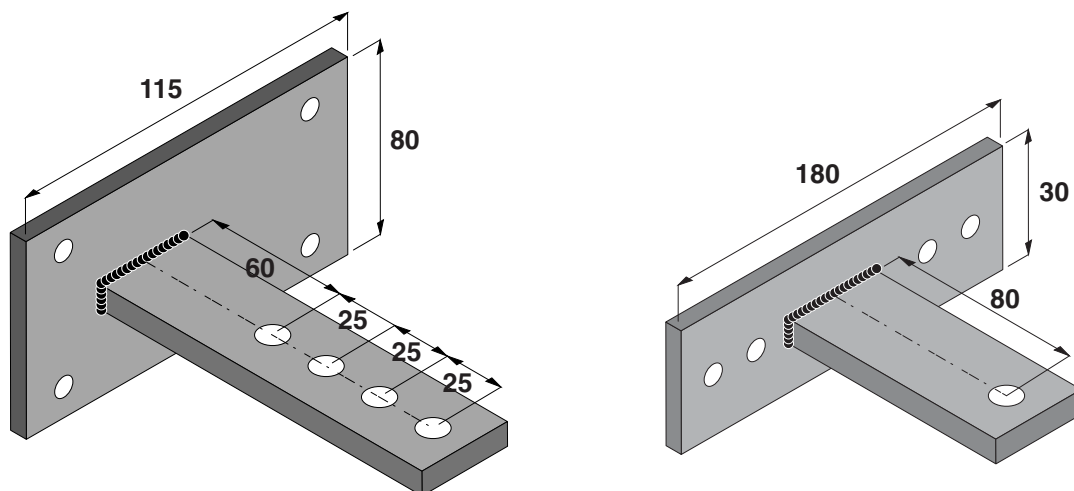

Fig. 2
2.2 Accessories (fig. 2): SILVER PF Plates with anchoring brackets for weld-free mounting